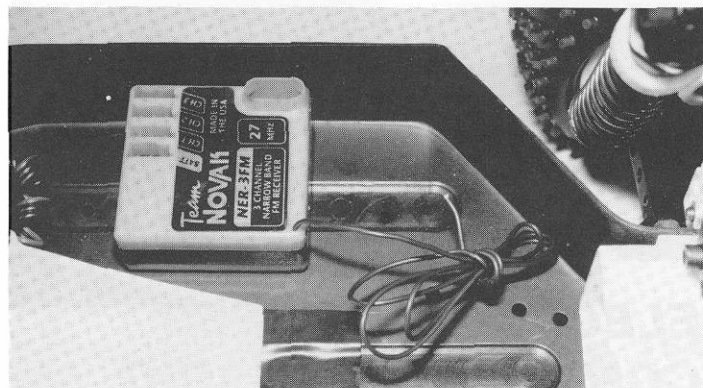

Fig. 172
Fig. 172, 173 & 174 (1) Locate your receiver close to the antenna on the right side of the chassis as shown. If your receiver is too large to fit laying down, you will have to stand it on edge. If you have to do this, make sure you have the crystal side of the receiver up. (2) In the master bag you will find the roll of #6726 black servo tape, a double-sided foam sticky tape. Cut a piece to match the side of the receiver that you are going to mount to the chassis. Stick it first to the receiver then the chassis. **Note:** Team drivers will sometimes use two layers of servo tape to help provide better shielding from electrical interference. (3) Remove your #6338 antenna tube and mount from the master bag. (4) Feed the antenna wire up through the bottom of the #6338 antenna mount. (5) Fasten the mount to the chassis (in the location shown) using the #6922 4-40 x 1/2" FHSScrew that came with the mount. (6) Now feed the antenna wire through the antenna tube. (Keep the antenna tube as long